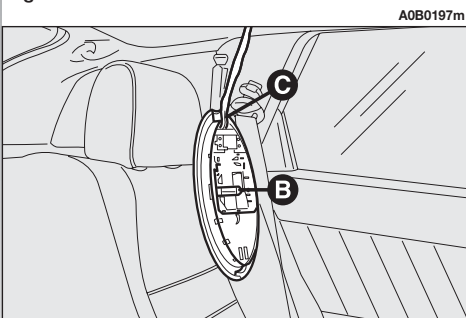

fig. 57
- Remove the bulb (**B-fig. 57**) pulling it outwards and releasing it from the side contacts.